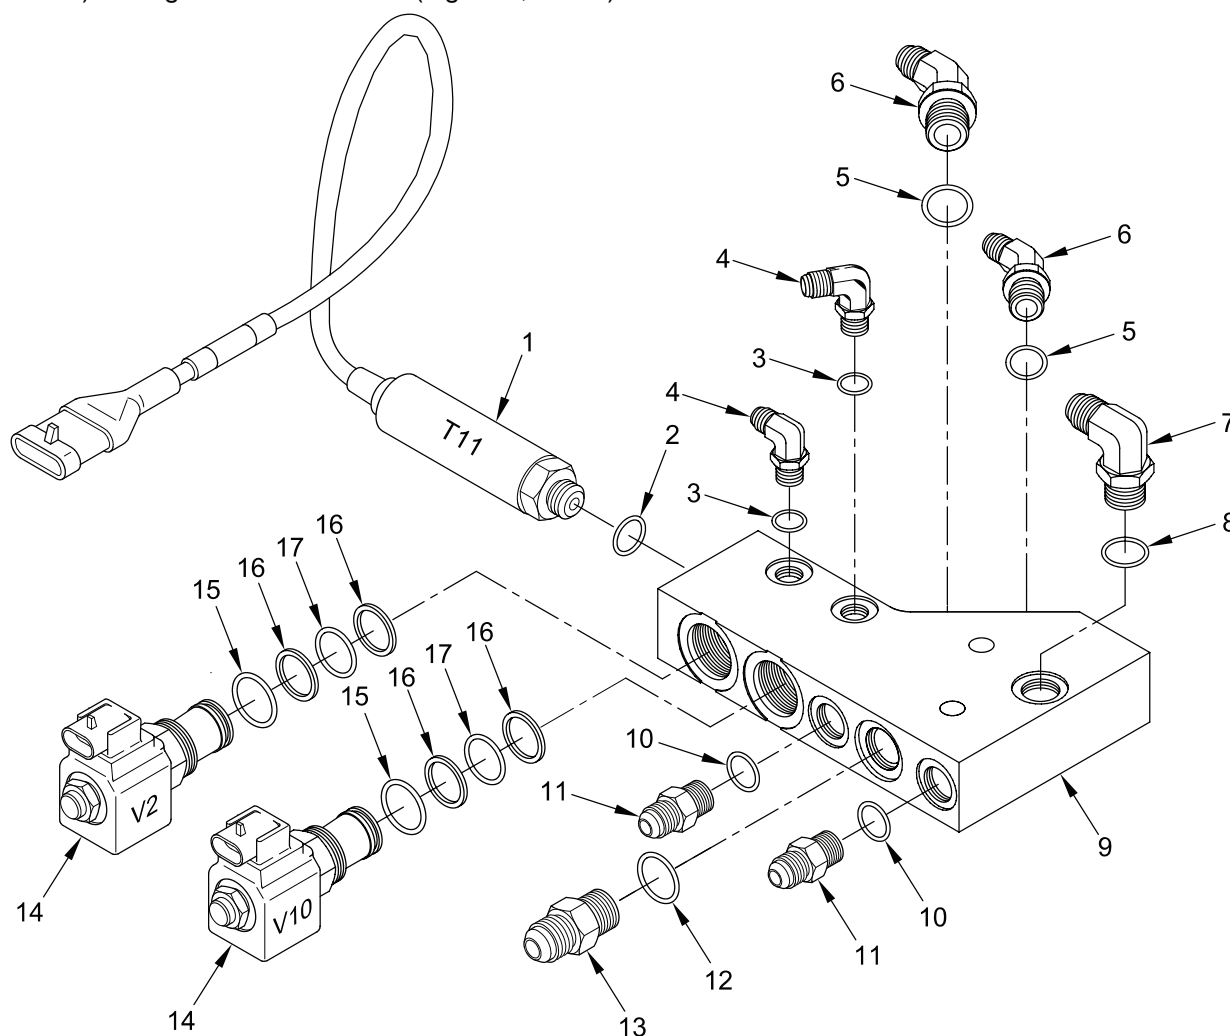

Figure 3. Assembly of HDC Forward Right Manifold
1. Install new o-ring (Figure 3, item 2), transducer T11 (Figure 3, item 1), two o-rings (Figure 3, item 15), two new teflon backups (Figure 3, item 16), two new o-rings (Figure 3, item 17), two new teflon backups (Figure 3, item 16), and two two-way (NO) valves V2 and V10 (Figure 3, item 14) into right forward manifold (Figure 3, item 9).
2. Install two o-rings (Figure 3, item 5), two adapters (Figure 3, item 6), o-ring (Figure 3, item 8), adapter (Figure 3, item 7), o-ring (Figure 3, item 12), adapter (Figure 3, item 13), two new o-rings (Figure 3, item 10), two adapters (Figure 3, item 11), two new o-rings (Figure 3, item 3), and two adapters (Figure 3, item 4) into right forward manifold (Figure 3, item 9).